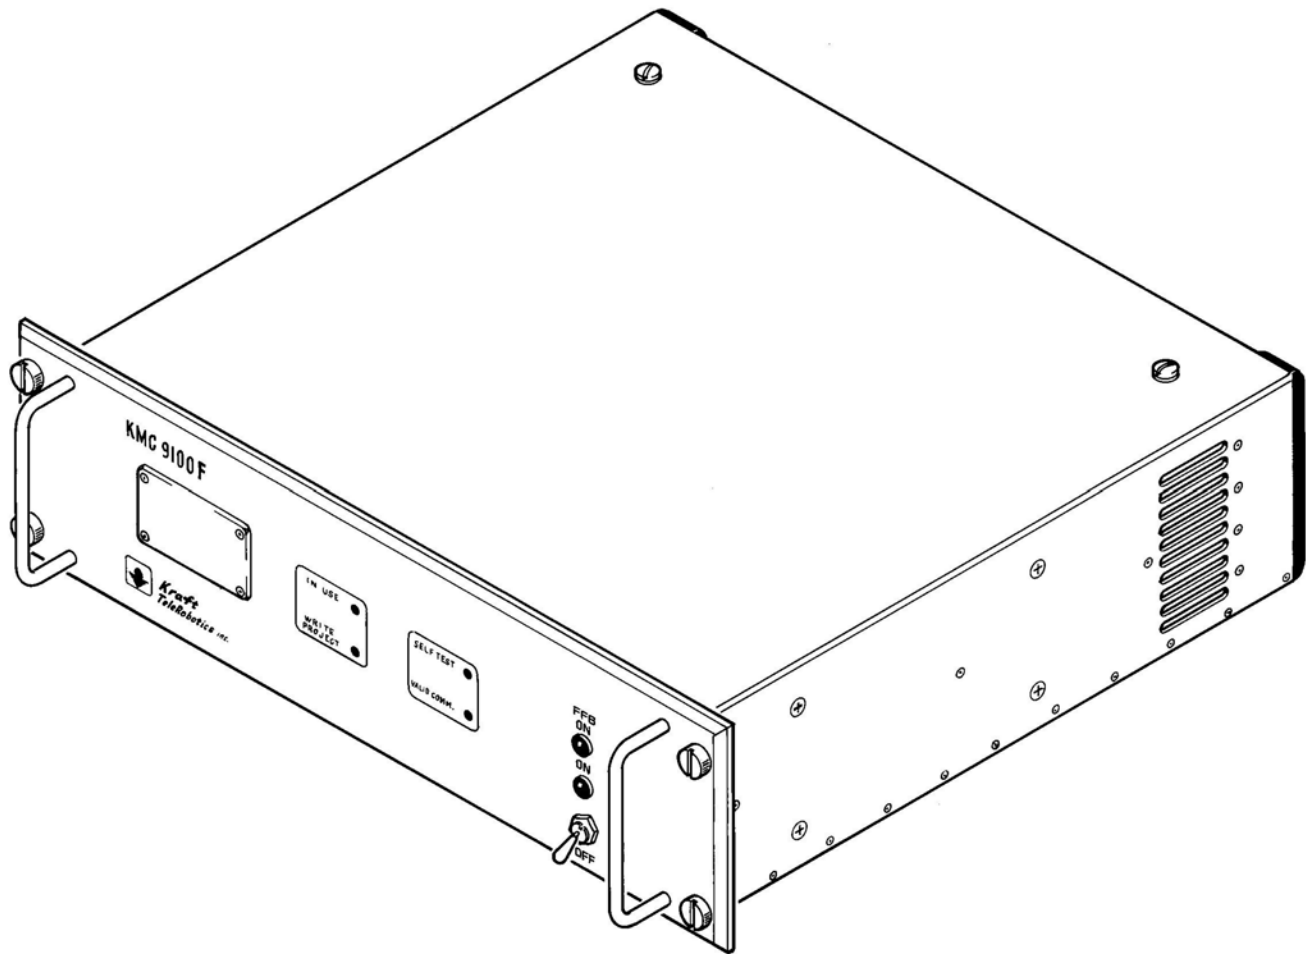

Figure 1-12 KMC 9100 F force feedback electronics chassis.
1. An enclosed 19 inch EIA rack mount master electronics chassis (Figure 1-12). This chassis houses the encapsulated master controller interface unit (MCIU) module which is the primary "computing engine" for the manipulator system in all configurations. Additionally, this chassis houses the torque motor driver electronics for powering the electric actuators on the force feedback master.